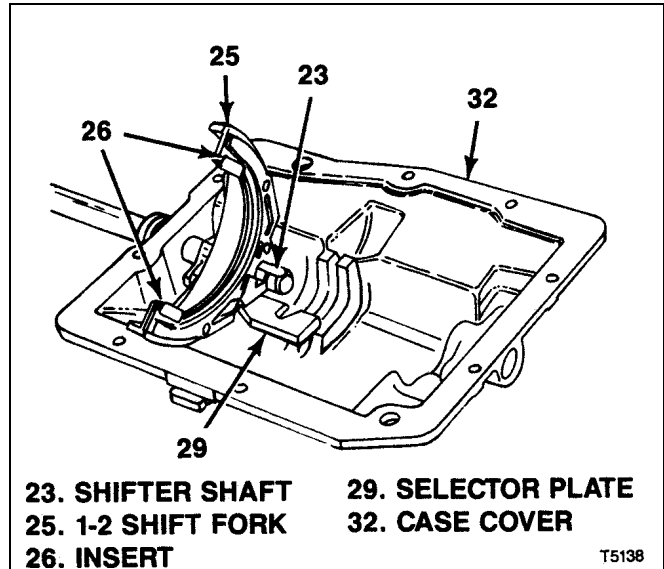

Figure 7-16. Installing T5 STD 1-2 Shift Fork
- Install o-ring (30) on case cover (32).
- Install inserts (26) on shift forks (24 and 25).
- Install selector plates (29) in shift forks (24 and 25).
- Start shifter shaft (23) into rear of case cover (32) until end of shaft is flush with inside of case cover.
- Position 1-2 shift fork (25) (with inserts and selector plate) in case cover (32) and push shifter shaft (23) just through fork. Notch in selector plate should align with semi-circular groove in cover (see figure 7-16).